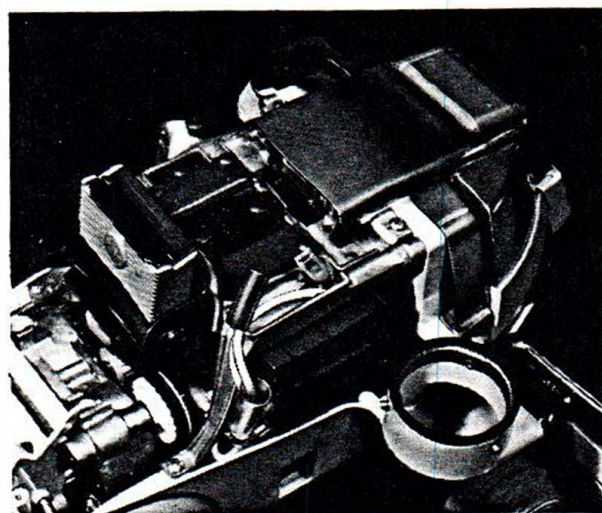

Figure 6. Separation of In-line Connector of Headlight Leads
- B. See Figure 6. Cut and remove tie wrap from headlight leads. Slide clear insulated tubing from in-line connector and separate connection.